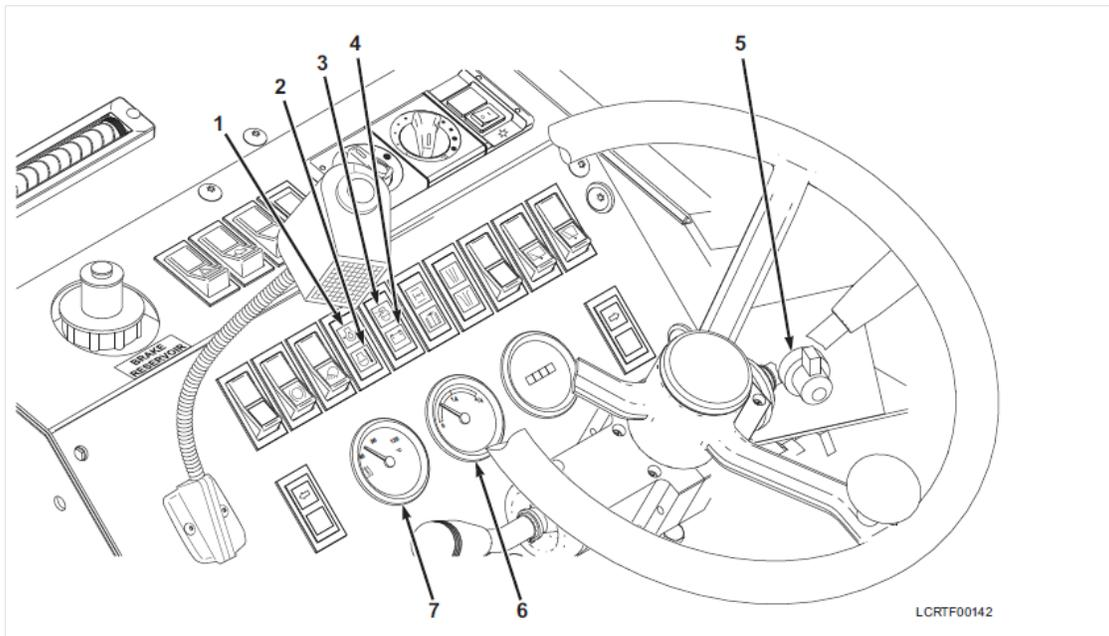

Figure 1-3
d. Turn the ignition switch clockwise to the IGN/START position (see Figure 1-3, Item 5) . Release the switch as soon as the engine starts. If the engine fails to start on the first try, wait until engine and starter have come to a complete stop. Then, return the switch to the OFF position before attempting to start engine again.
e. After engine starts, return accelerator pedal to idle position for approximately 3 minutes. Ensure that readings on gauges (see Figure 1-3, Item 6 and 7) are within normal operating ranges and warning lights (see Figure 1-3, Items 1, 2, 3, and 4) are not illuminated before moving vehicle.